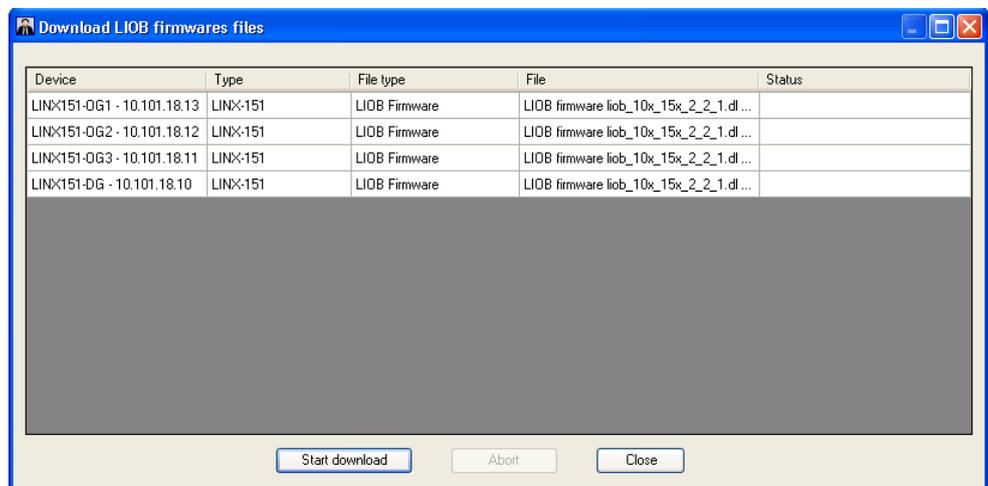

Figure 193: Download L-IOB Firmware File Dialog
2. The **Download L-IOB firmware files** dialog opens as shown in Figure 193. This dialog displays a list of L-INX devices and the L-IOB firmware files which will be downloaded. To start the download press the **Start download** button.